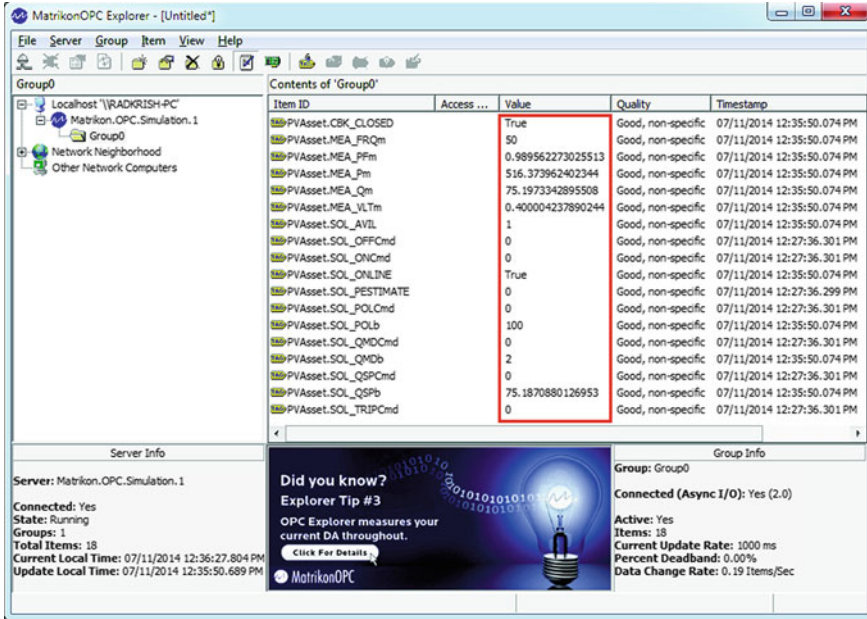

Fig. 16.17 Matrikon OPC server explorer—list of tags after initialization
6. Note that the “Value” column in the OPC server explorer has started showing the values as communicated by the external measurement objects (see Fig. 16.17).
5. At the same time, note that the values of the OPC are rapidly changing in real time as the simulation is running (refer Fig. 16.17)